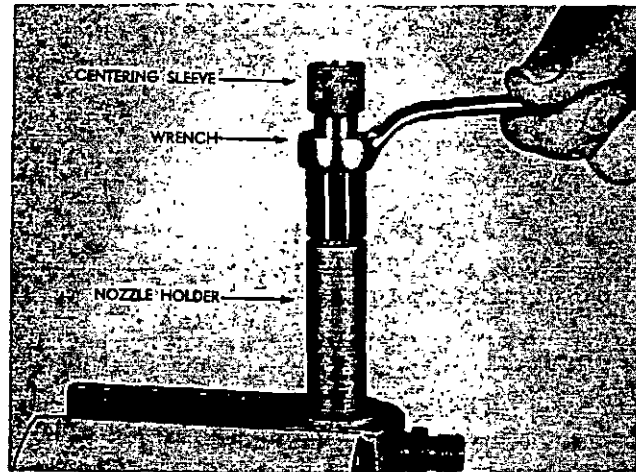

Figure 110
1. Flush the holder, being sure all passages are clean. Clamp the holder in a vise as shown in Fig. 110.
3. Place the nozzle in the nozzle cap nut and install on the holder. While the nut is still loose place the nozzle centering sleeve (Fig. 110) in position and use a box end wrench to partially tighten the nozzle cap nut. Finish tightening the nut with a deep socket and torque wrench. Torque to 60 to 65 ft. lbs. Be very careful not to damage the pintle.